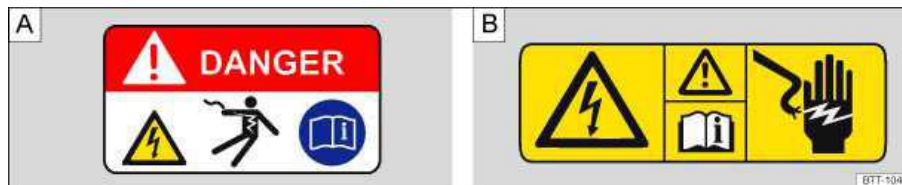

Fig. 119 WARNING labels: A: On every high-voltage component, B: General warning sign for high-voltage
- Every high-voltage component ⇒ fig. 119 \(A\)
- The charging port (B)
- Covers on components of the high-voltage system (B)